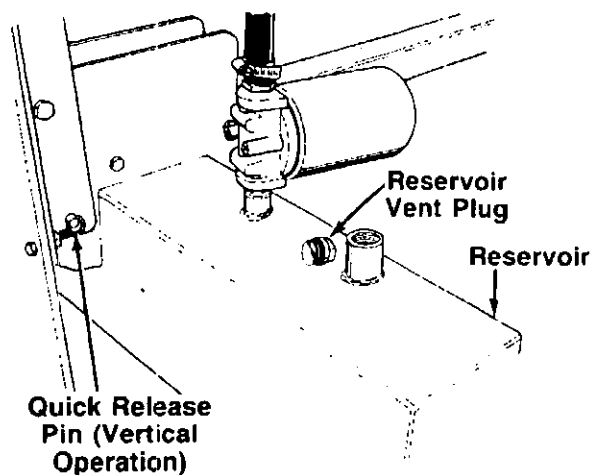

FIGURE 13.
1. Place log splitter on a firm, level surface. For vertical operation, remove the quick release pin from the latch bracket. Place the beam in the vertical position. Place the quick release pin through the holes in the beam mounting plates and the brackets on the reservoir tank. See figure 13.
- a. Remove reservoir vent plug. See figure 13. Using Dexron II automatic transmission fluid, fill reservoir to the top. Replace vent plug securely.